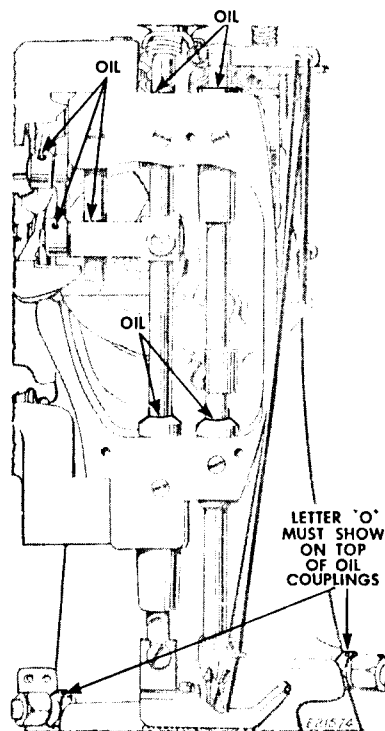

Fig. 8
**NOTE:**—The letter "o" marked on the front and rear couplings, see Fig. 8, must always be at the top, to insure that the oil spoon, attached to the inner end of each coupling, is open-side up to receive oil.